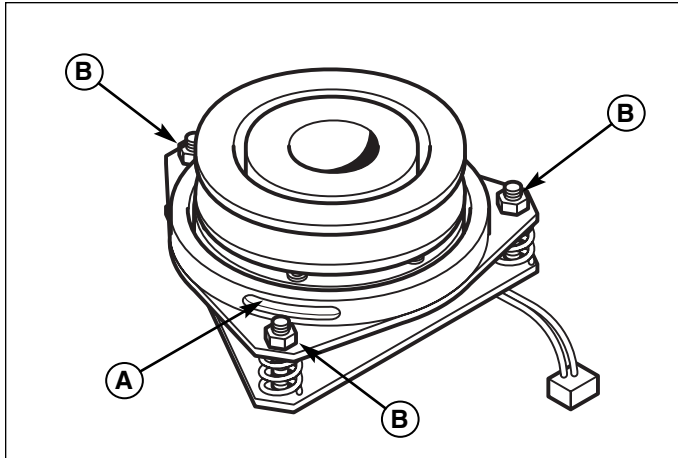

Figure 21. PTO Clutch Adjustment
- See Figure 21. Note the position of the 3 adjustment windows (A) in the side of the brake plate and the nylock adjustment nuts (B).
- Alternately tighten the adjustment nuts (B, Figure 21) until the rotor face and armature face just contacts the gauge.